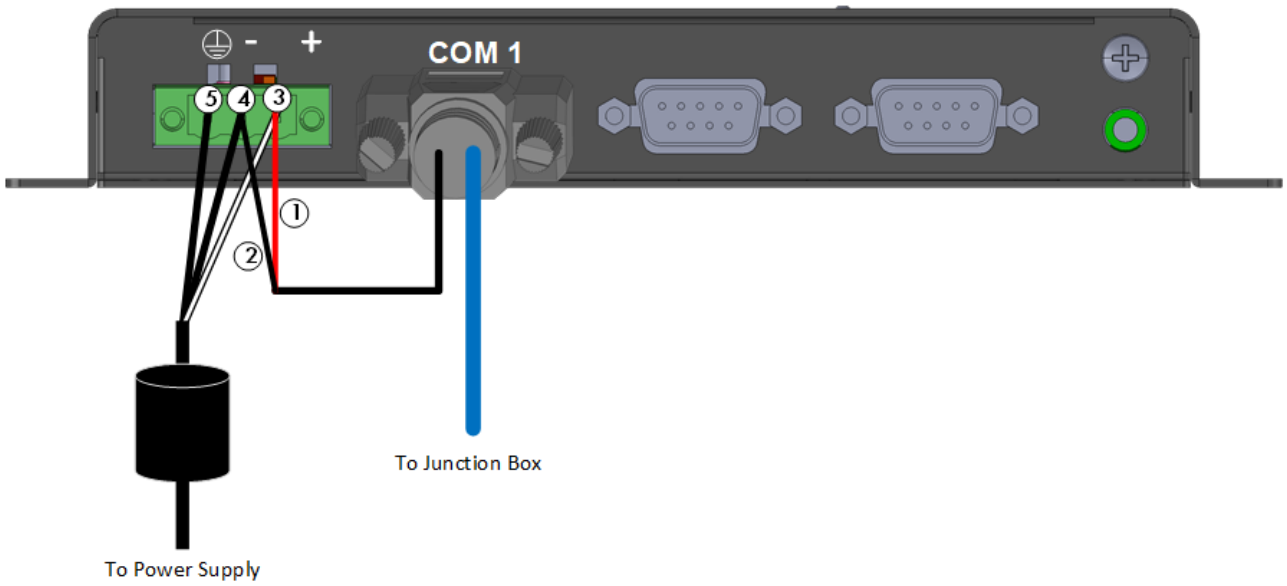

Figure 8: Junction Box Wiring to CommBox
2. Insert the two wires coming from the Junction Box cable into the ports (Figure 8).
*These wires come preconnected to the CommBox. In the event that they need to be reattached, place the white cable (#3) in the port as shown in Figure 8. Place both black cables into the ports as shown in Figure 8; either cable can be placed in either port.